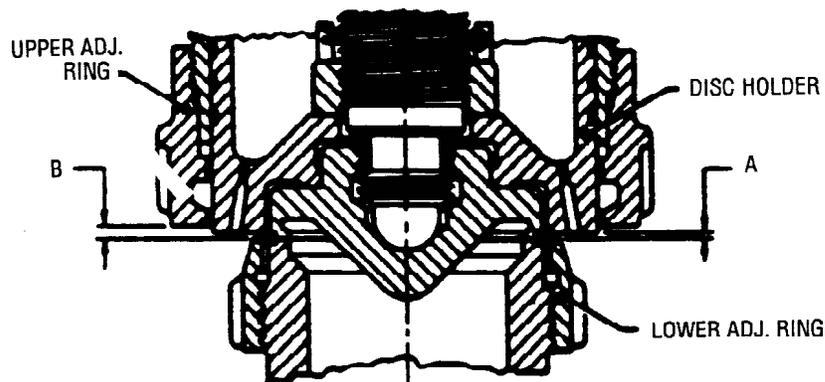

FIGURE 9
- e. Refer to Figure 9 (below), and move the lower adjusting ring down the number of notches indicated in Column A, plus 1 additional notch for each 600 psig increment of set pressure, not to exceed six notches (see Table I, also below).
- e. From this point, move the upper adjusting ring down the number of notches indicated by Column B of Table I (see page 23). This is also Dimension B in Figure 9 (again, see page 23).